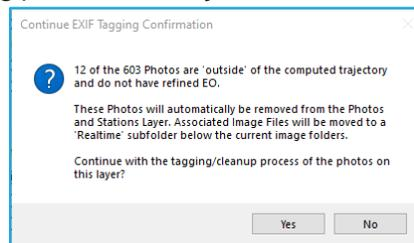

Figure 97 - EXIF Tagging Confirmation
- 23. A confirmation dialog (Figure 97) will appear showing the number of images that will be removed. This is a result of those images being outside of the corrected trajectory time frame and normal for the tagging process. Select yes to continue.